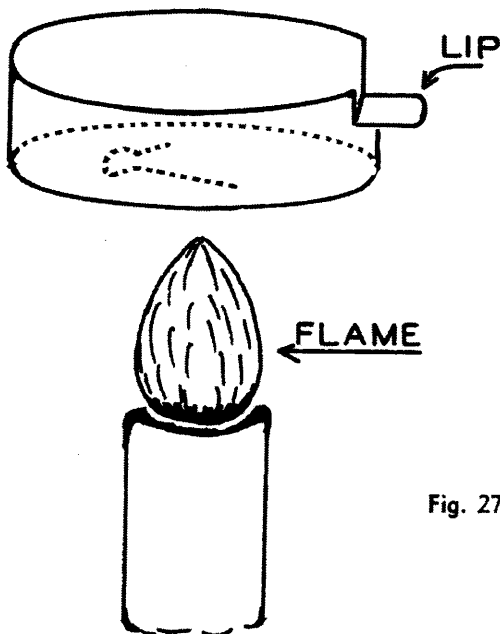

Fig. 27-20
7. Select a small material box and break the edge with a pair of flat nose pliers forming a small lip as in figure 27-20.